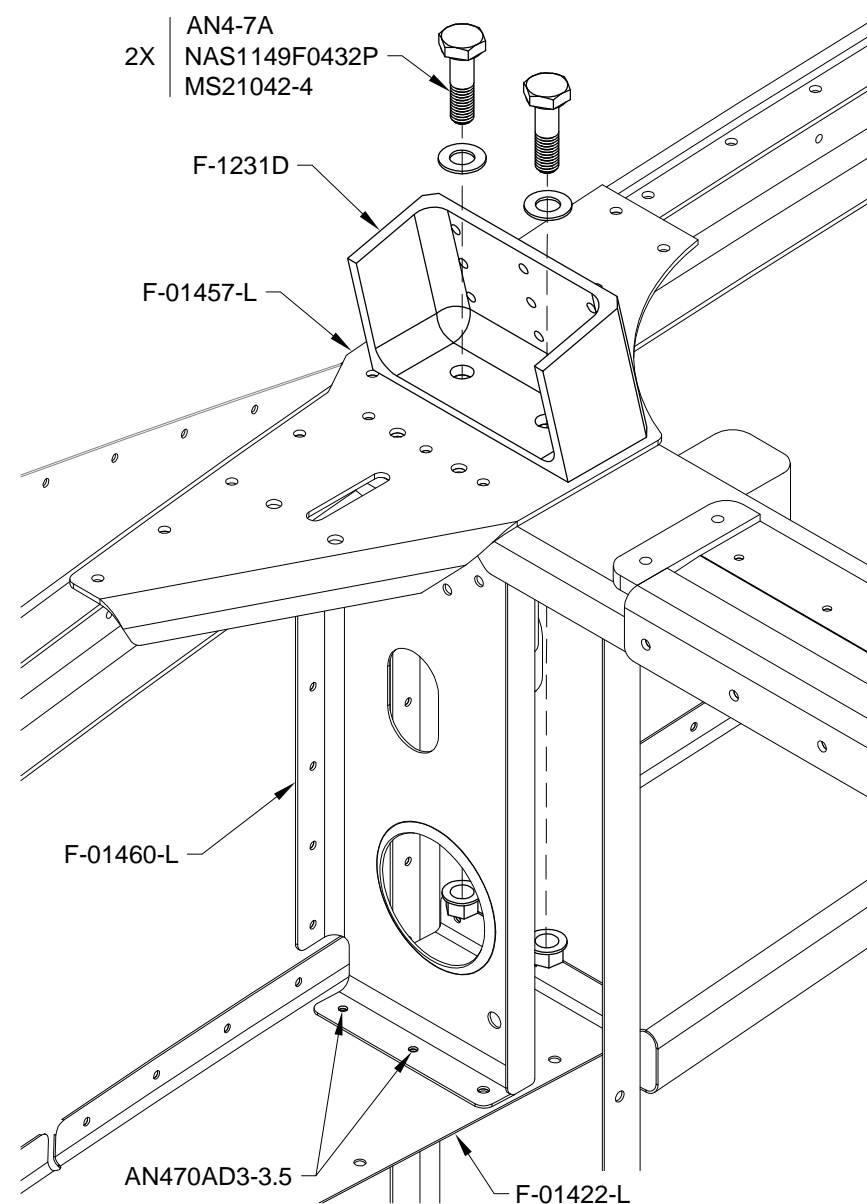

FIGURE 1: ROLL BAR BASE INSTALLATION
Step 1: Bolt the F-1231D Roll Bar Bases to the fuselage as shown in Figure 1. See Section 5.20 for proper torque values.
Step 2: Rivet the F-01460-L & -R Intercostals to the F-01422-L & -R Fuselage Side Ribs as shown in Figure 1.